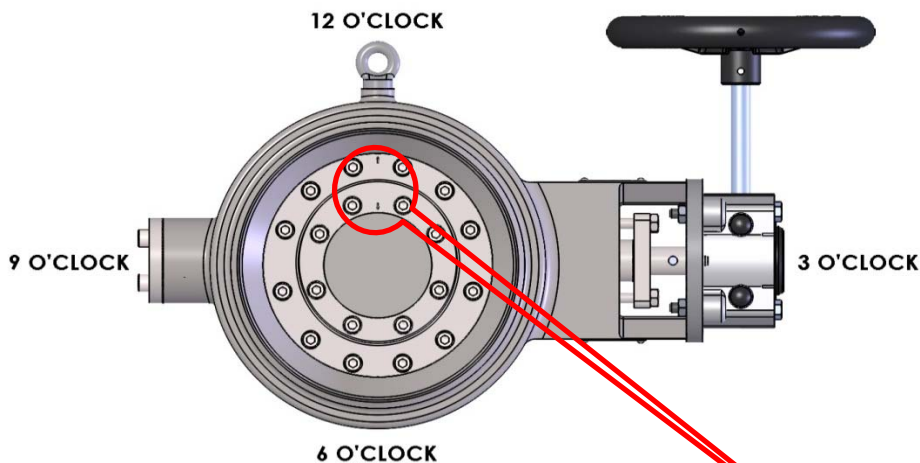

Fig. 8
The Tomoe Trittec valve features a field replaceable body seat (Item 3) and disc seal (Item 6). The seat and seal can be replaced without specialised tools, and without the need to return the valve to the factory. The components are precision machined and therefore can be replaced independently or as a pair. Due to the valve geometry the components must be fitted with the correct radial alignment. The body seat (Item 3) body seat retaining ring (Item 4), disc seal (Item 6), body (Item 1) and disc (Item 2) all have an alignment arrows in the same position. To aid alignment the components are marked to show the 12 o'clock position (see figs 8 & 8a).
- g. Place one finger on the body seat in the 6 o'clock position as shown. (see figs. 8 & 9)